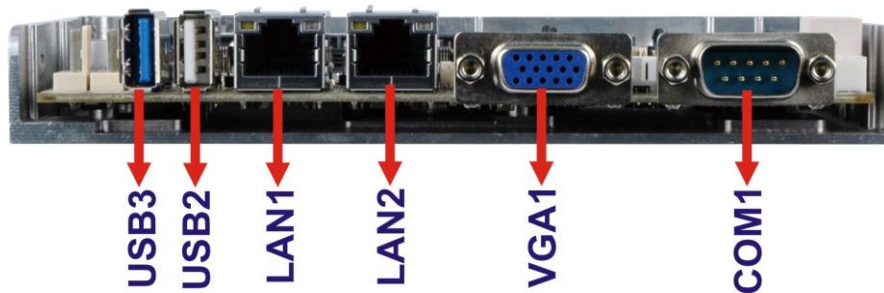

Figure 3-24: External Peripheral Interface Connector
Figure 3-24 shows the WAFER-BT external peripheral interface connector (EPIC) panel.
CN Location:	See Figure 3-24
- CN Location:See Figure 3-24
CN Location: See **Figure 3-24**
- CN Location: See Figure 3-24